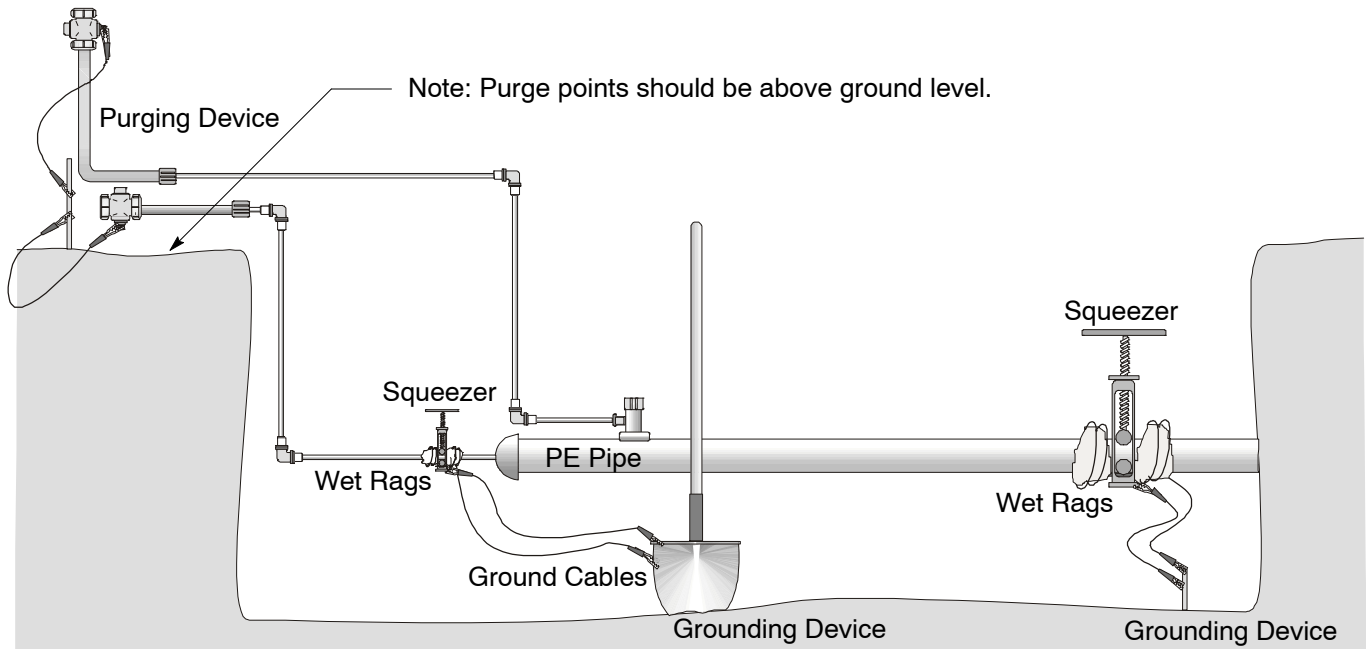

Figure 3
- 20. Remove static-electric charges by grounding the pipe whenever the pipe is squeezed. Refer to Figure 3 on Page 10 and the instructions below to properly ground plastic pipe before purging. To ground the pipe: